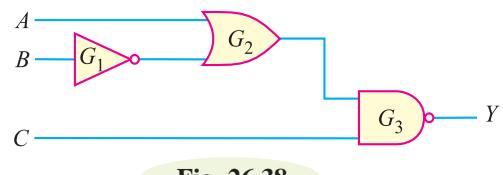

Fig. 26.38
**Example 26.21.** Write the Boolean expression for the digital circuit shown in Fig. 26.38.